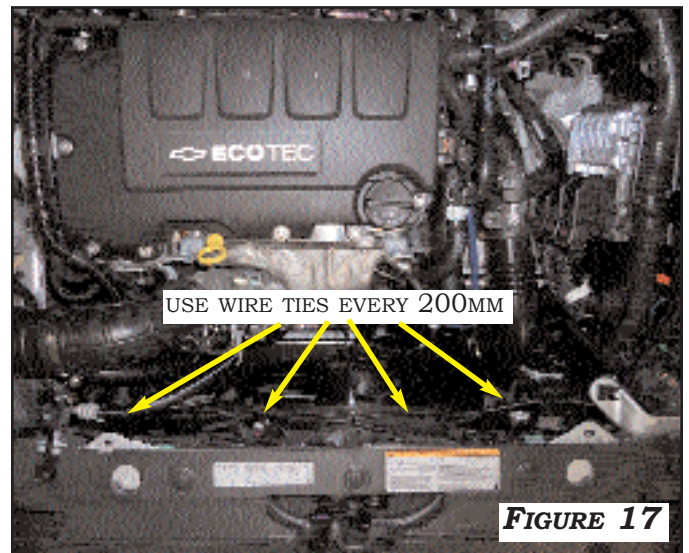

FIGURE 17
3. ROUTE THE LONGER END OF THE DRL EXTENSION HARNESS TO THE RIGHT FOG LIGHT OPENING. FOLLOW THE OEM HARNESS ABOVE THE FAN SHROUD AND SECURE IT WITH WIRE TIES EVERY 200MM (8"). **FIGURE 17**